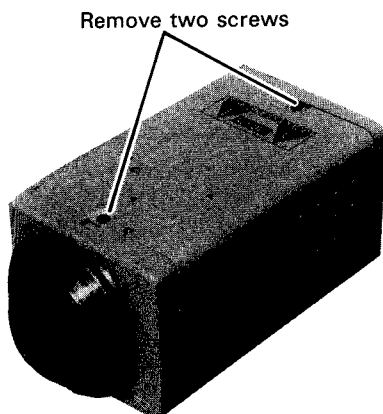

Fig. 2-2
- Referring to Fig. 2-2, remove two screws that secure the Bottom Cover and remove the Bottom Cover.